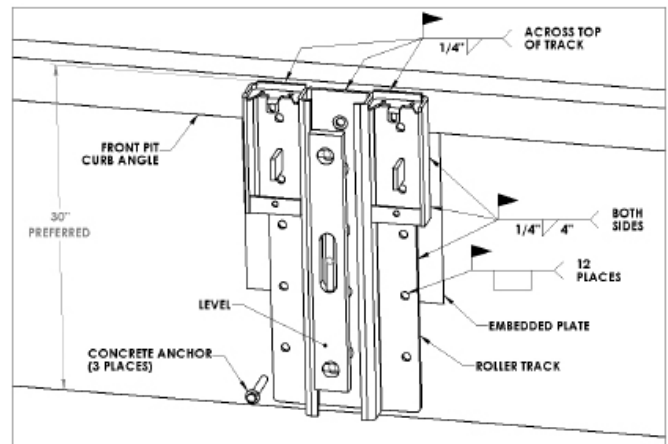

FIGURE 4—WELDING ROLLER TRACK FRONT VIEW (WITH EMBEDDED PLATE)
Plug weld all holes that are in contact with the embedded mounting plate. All fifteen (15) holes must be either plug welded or anchored. See Figure 4.